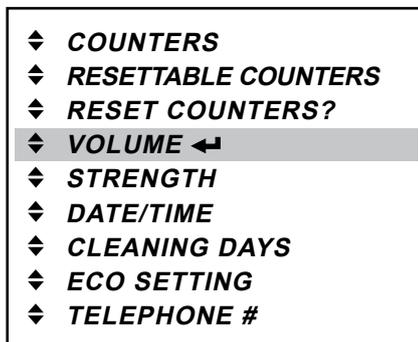

Fig. 35
1. Press the enter button **↵** to access the «VOLUME» menu (fig. 35).